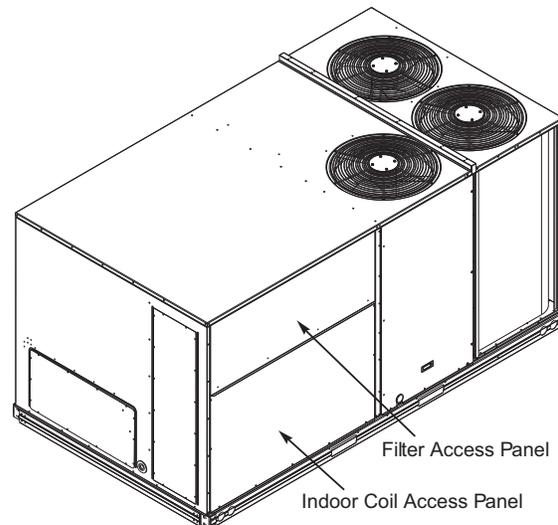

Fig. 15 — Typical Access Panel Locations
1. To gain access to the hood, remove the filter access panel. (See Fig. 15.)